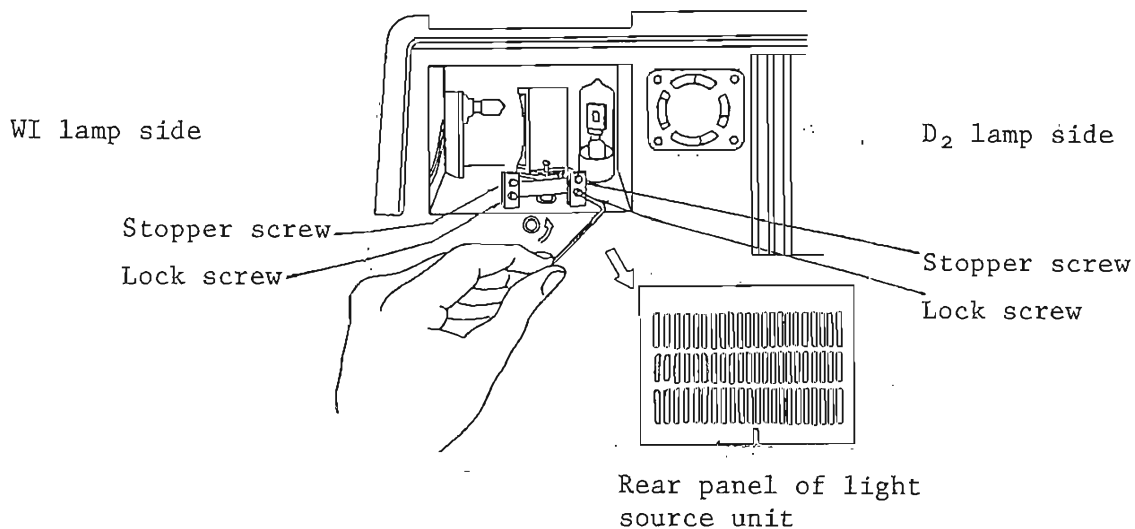

Fig. 4 Rear panel of light source unit.
(2) Remove the rear panel of the light source unit.
(3) Press the [Display List] key. (With the LCD type)
(4) Slightly loosen the lock screw on the WI lamp side by turning it counterclockwise with an Allen wrench, search for a position where the data value (displayed on CRT or LCD) becomes maximum by turning the stopper screw on the WI lamp side, and tighten the lock screw. (Fig. 4)
- (2) Remove the rear panel of the light source unit.
- (3) Press the [Display List] key. (With the LCD type)
- (4) Slightly loosen the lock screw on the D2 lamp side by turning it counterclockwise with an Allen wrench, search for a position where the data value (displayed on CRT or LCD) becomes maximum by turning the stopper screw on the D2 lamp side, and tighten the lock screw. (Refer to Fig. 4.)
- (5) Install the rear panel and inner and outer lids of the light source unit in the original position.